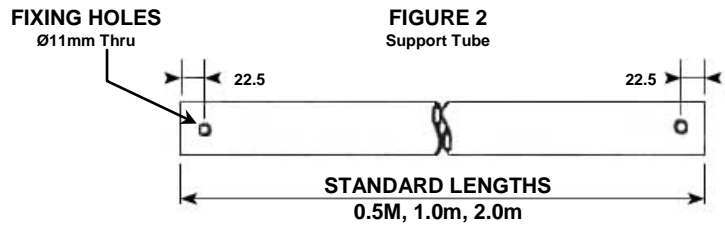

FIGURE 2
3. See fig 2. If length of support tube is altered, re-drill 11mm hole as shown.